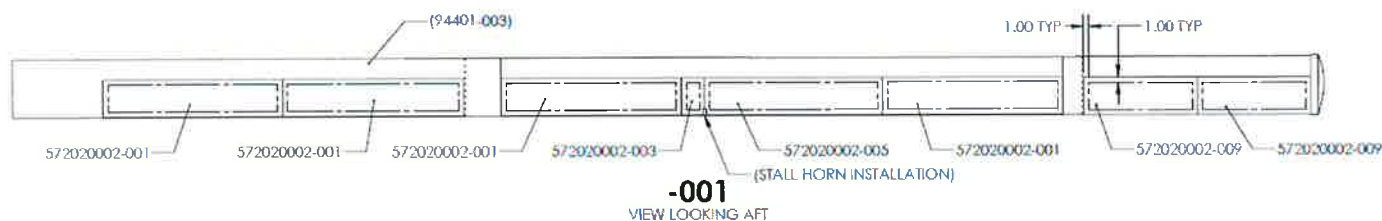

Figure 8-1
(Reference Figures 8-1 & 8-3)
3. Locate remaining shields on both wings as shown in Figures 8-1 through 8-4 starting with those located closest to rivet rows.